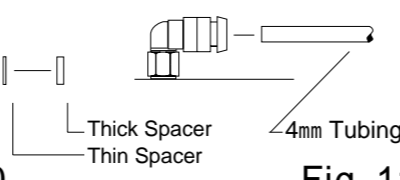

Fig. 11
- 3 Insert and fasten 4mm tubing into Air Joint. (Fig. 11)